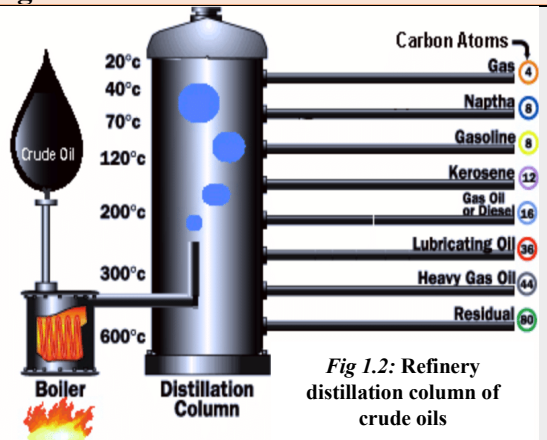

Fig 1.2: Refinery distillation column of crude oils
- Draw and label the refinery distillation process of crude oils in figure 1.2.
Fig 1.2 shows the processing plant for natural gas